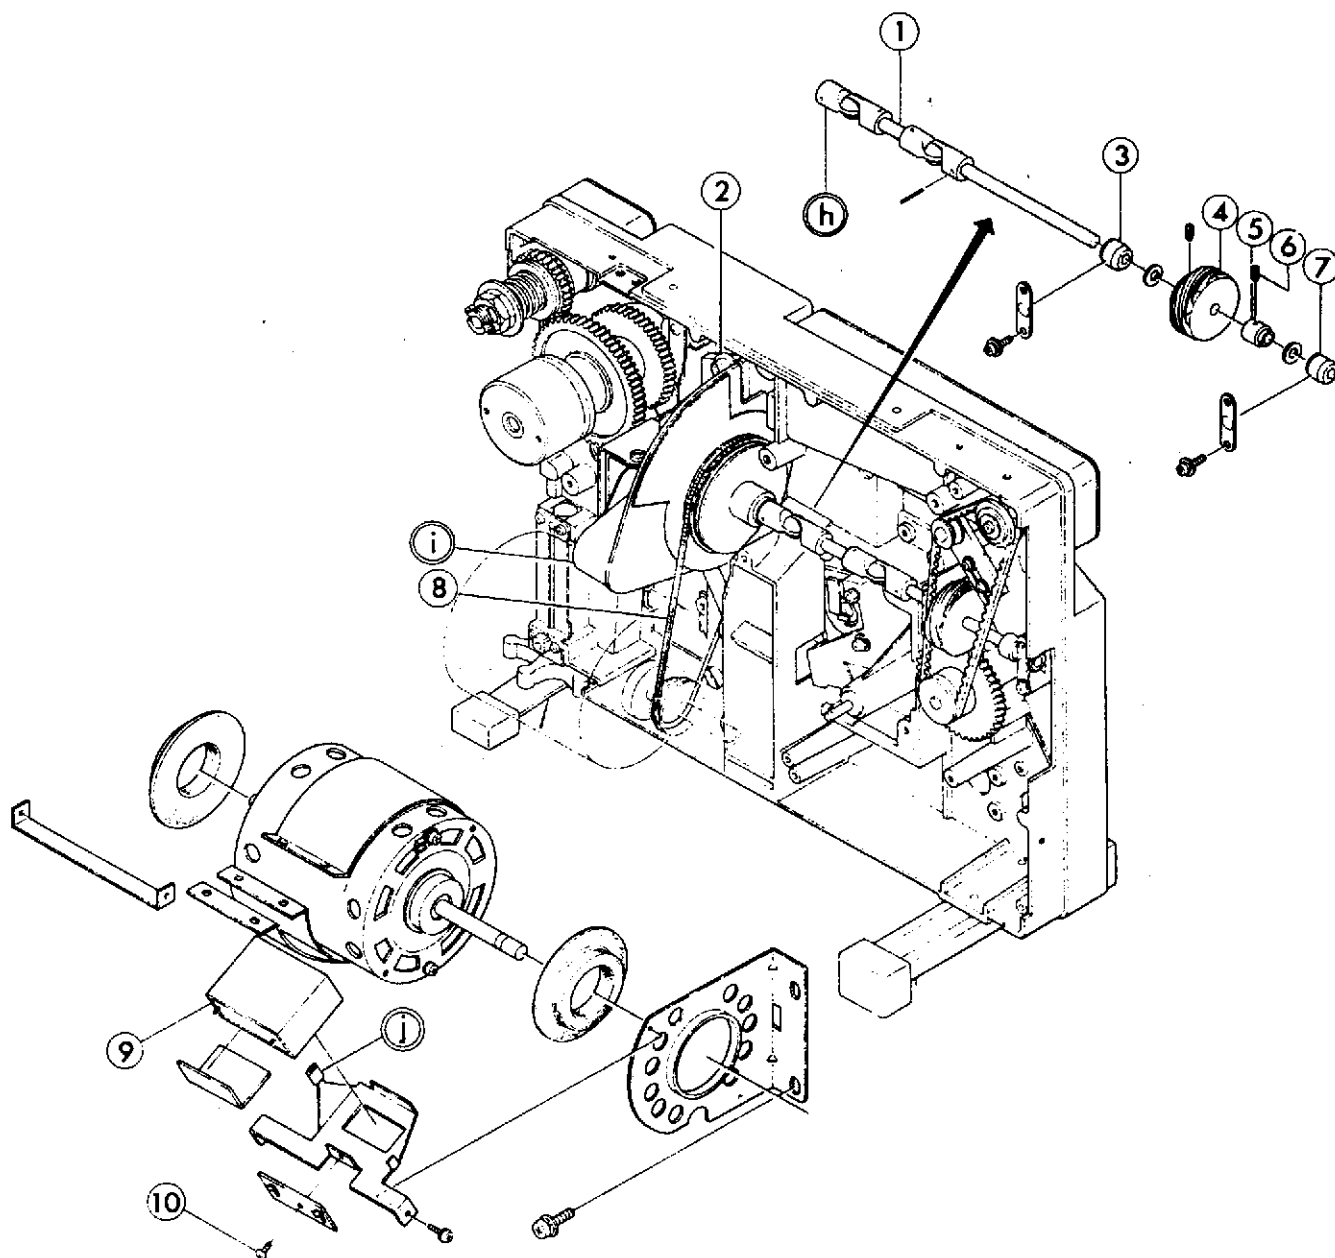

Fig. 11
- (2) After (j) in Fig. 11 is raised up, remove Fig. 11-9 by detaching Fig. 11-10.
- (4) Remove Fig. 11-8 from (i) in Fig. 11.
- (5) Set Fig. 1-22 at "⊗" position and remove (i) in Fig. 11 by detaching Fig. 11-2x2.